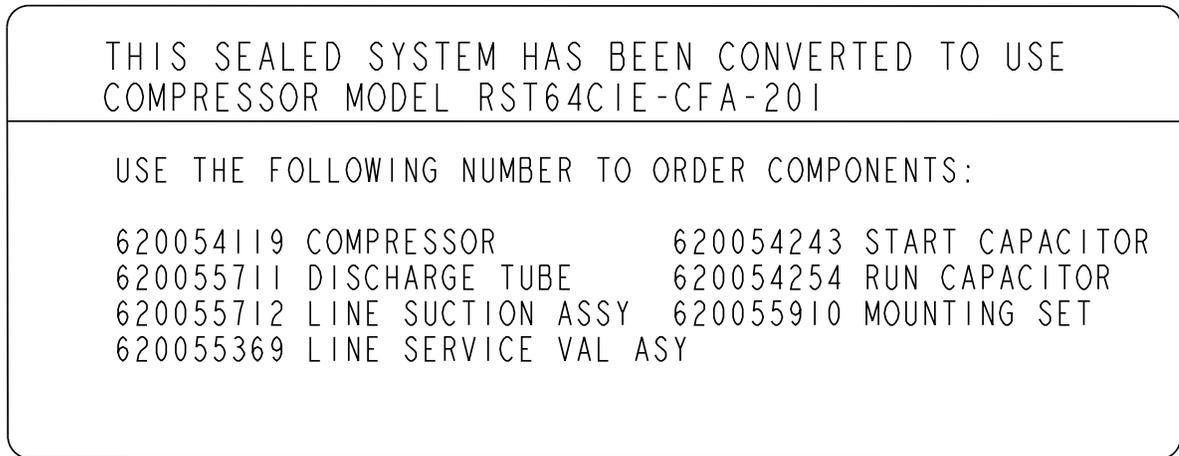

Figure 9. External Label
15. Put the label 620057184 on the back panel below the serial label. Refer Figure 9.